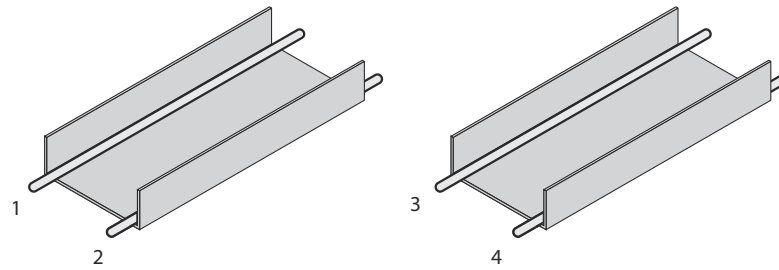

Figure 18: Ideal laying - Place cables in different cable channels
- ▶ Cables in groups 1, 2 and 3, 4 must be routed in different cable channels or metallic separators must be used, see figure 18 and see figure 19. This applies particularly where cables of devices with a high level of radiated emission, such as frequency converters, are laid parallel to sensor cables.